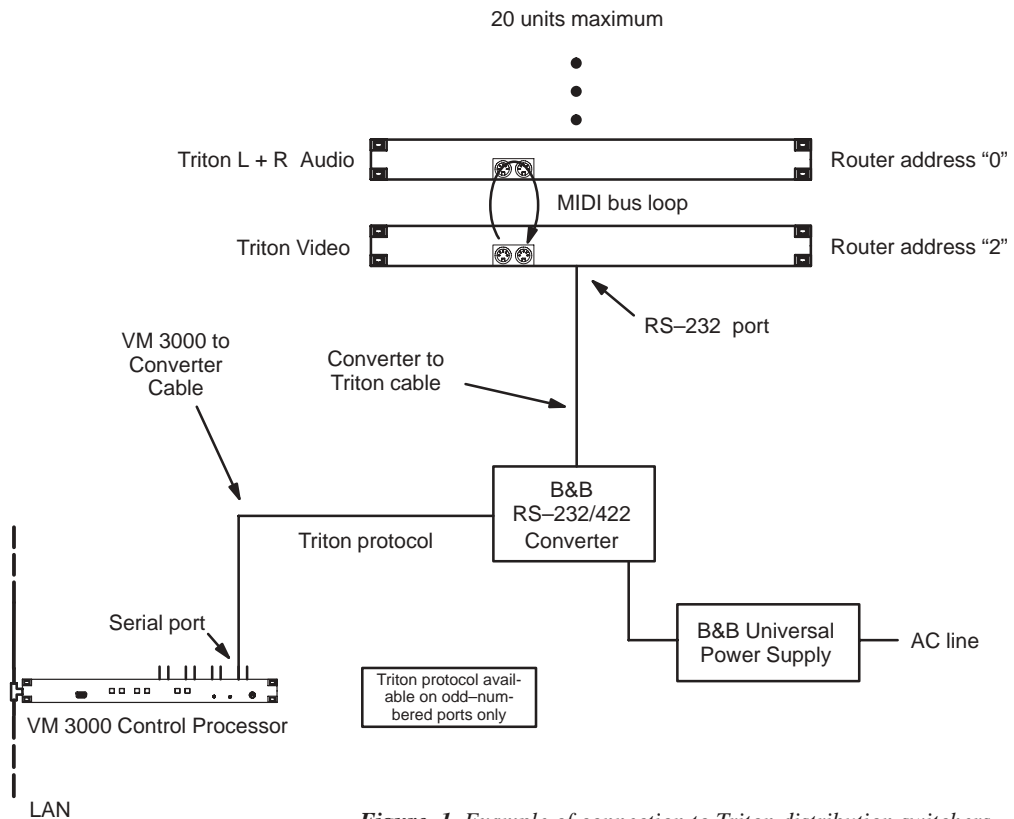

Figure 1. Example of connection to Triton distribution switchers.
5. Connect the **VM 3000 to Converter Cable**, part number 01-050452-001, to an odd number serial port on the VM 3000. See Figure 1.